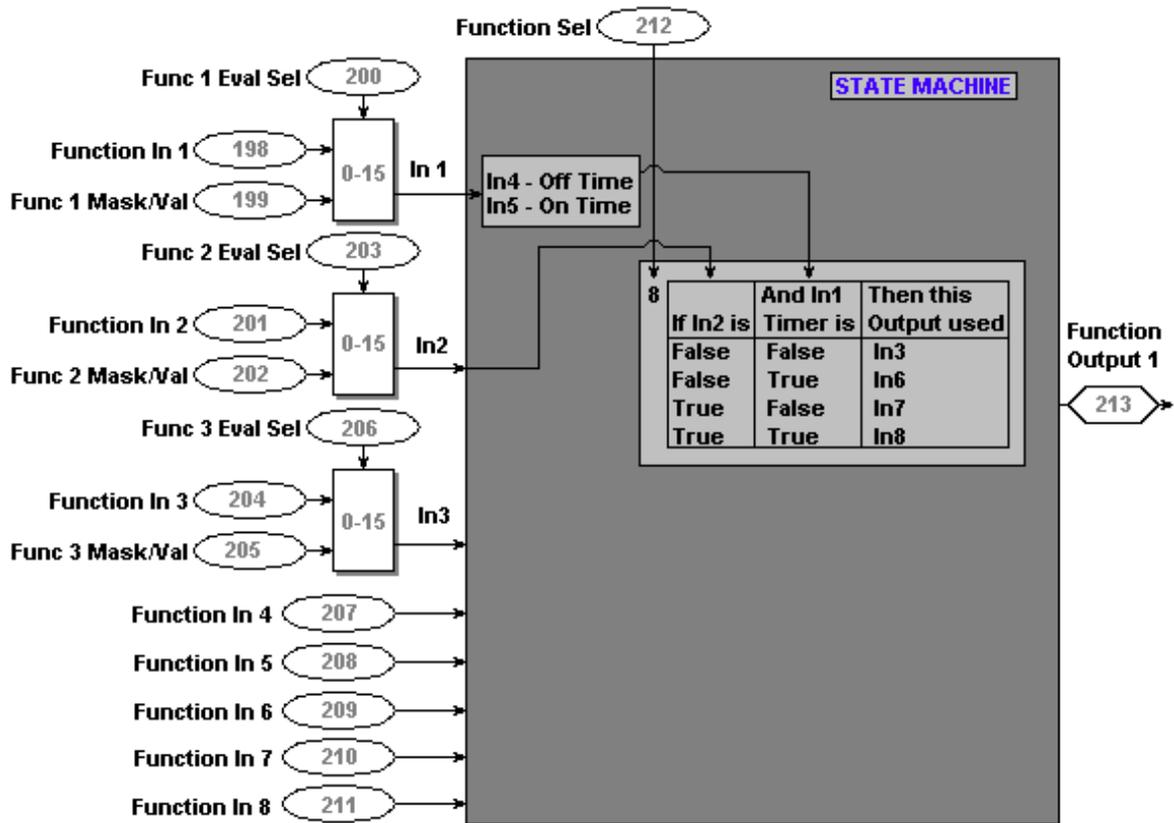

Figure 1
The state machine block is a function generator. The signal at In1 is routed to a timer that delays the true/false state of this input. The result is logically compared with the true/false state of In2 to determine which one of four signals will be routed to the output. To configure the drive with the State Machine circuit the [Function Sel] parameter (212) must be programmed appropriately. Refer to figure 1.